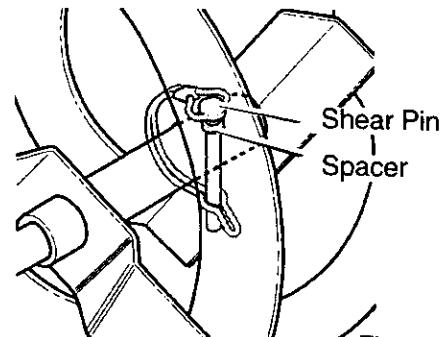

Figure 33
3. Align the hole in the auger with the hole in the auger shaft. Install the new **shear pin** and **spacer**. See Figure 33.